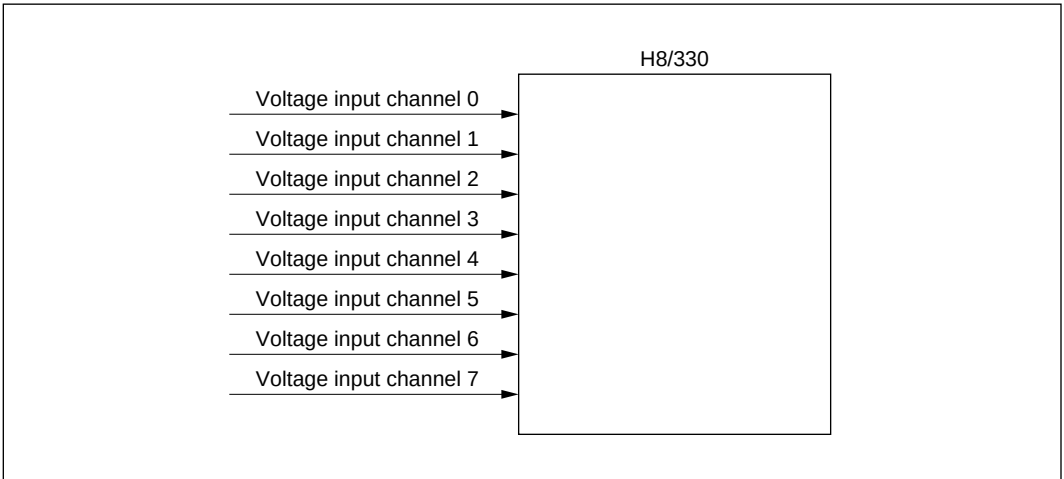

Figure 1 Voltage Measurement by H8/330
1. This sample task inputs voltages on eight channel to the H8/330 as shown in figure 1, measures the voltages by A/D conversion, and stores the measurement results in an eight-byte RAM area.